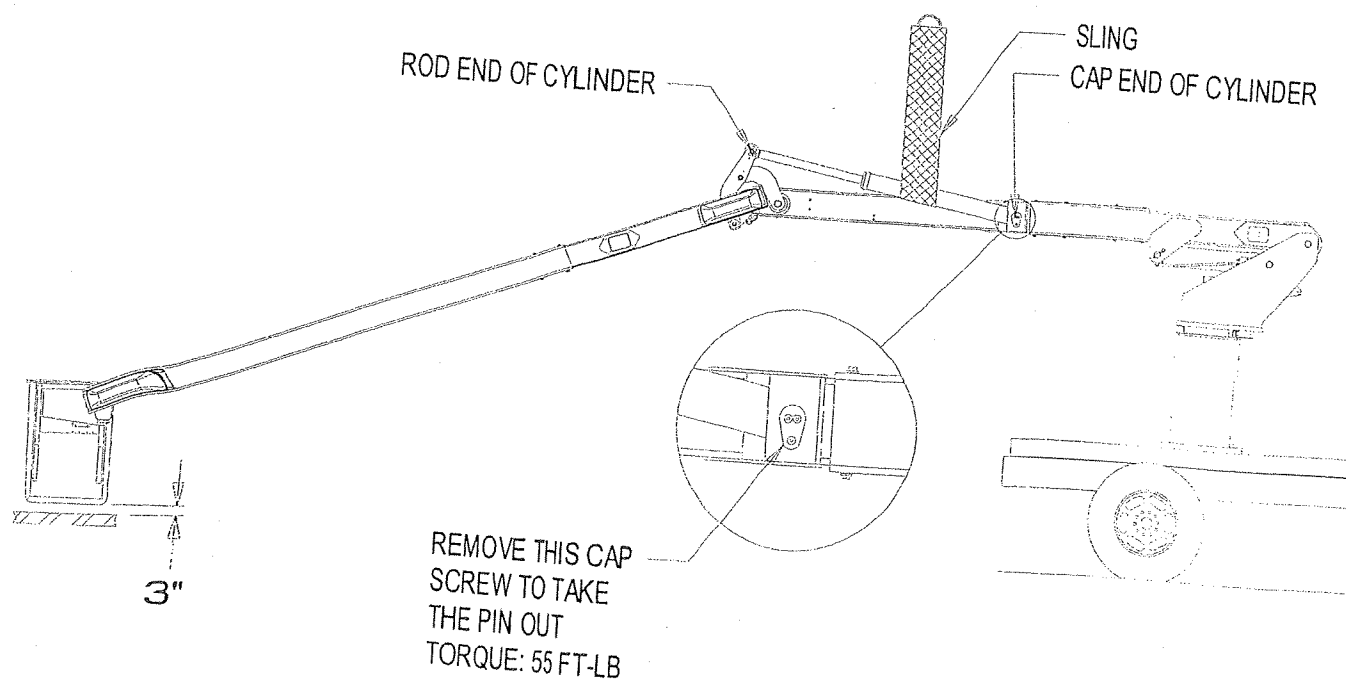

Figure 7.2 Upper boom cylinder
2. With the lower boom in the rest, unfold the upper boom so that the platform rests approximately three inches from the ground. Place a board or pallet under the platform. Shut off the PTO and truck engine (refer to Figure 7.2).
9. Remove the countersunk head capscrew from the pin at the cap end of the cylinder (refer to Figure 7.2).
3. Install the countersunk head capscrew through the flange and lug retainer (Refer to Figure 7.2 for the torque value).